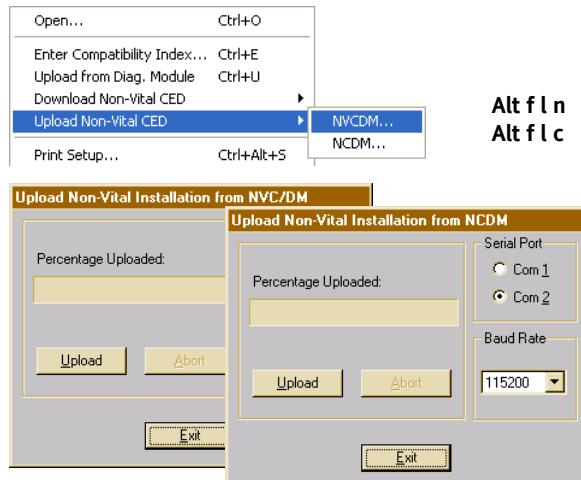

Figure 3.12 Upload Non-Vital Installation dialog boxes
- e) Click **Upload** (figure 3.12).
The upload can be stopped by clicking **Abort** (figure 3.12).